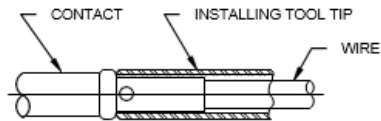

FIGURE 2
- b. Contacts without insulation cups are inserted by sliding wire barrel into front end of installing tip until contact shoulder butts against installing tip. Figure 2.
Binder: Looseleaf, three rings, 0.437 (11.10 mm) * 0.062 (1.57 mm) inch I.D., 2.75 inches (69.9 mm) center distance between rings, securely riveted to inside of cover (see figure 2).